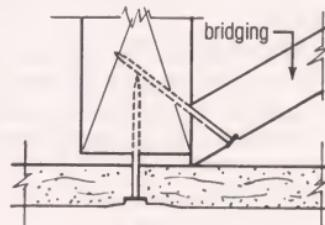

Fig. 4
**Cause:** Bridging, headers, firestops or mechanical lines have been installed improperly so as to project beyond face of framing, preventing panels from contacting nailing surface (Fig. 4). Result will be loose board, and fasteners driven in area of protrusion will probably puncture face paper.